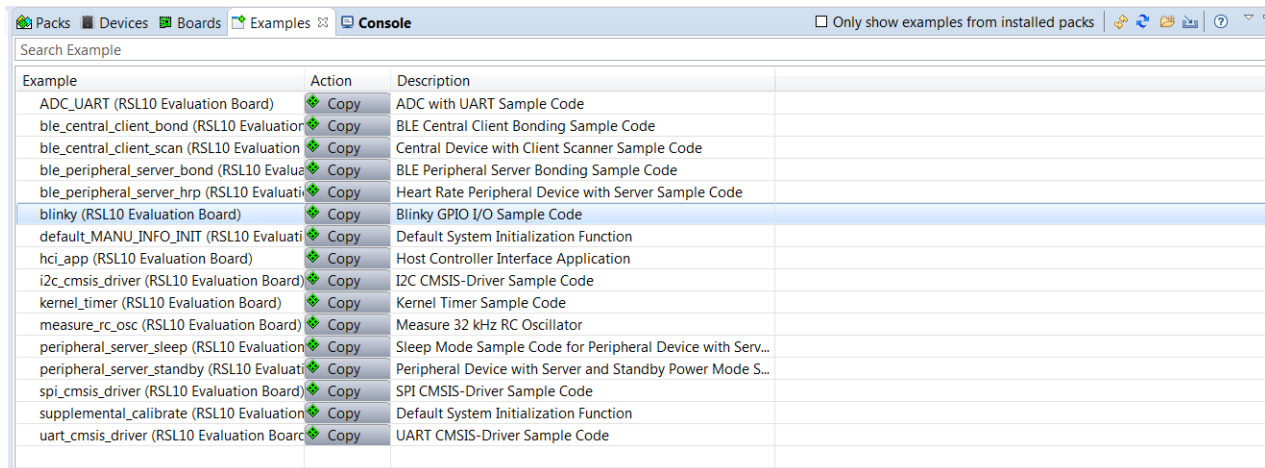

Figure 31. IAR Embedded Workbench CMSIS Manager: Examples Tab
- Choose the example project called *blinky*, and click the **Copy** button to import it into your workspace (see Figure 31 on page 27). Choose a destination folder for a copy of the sample code.